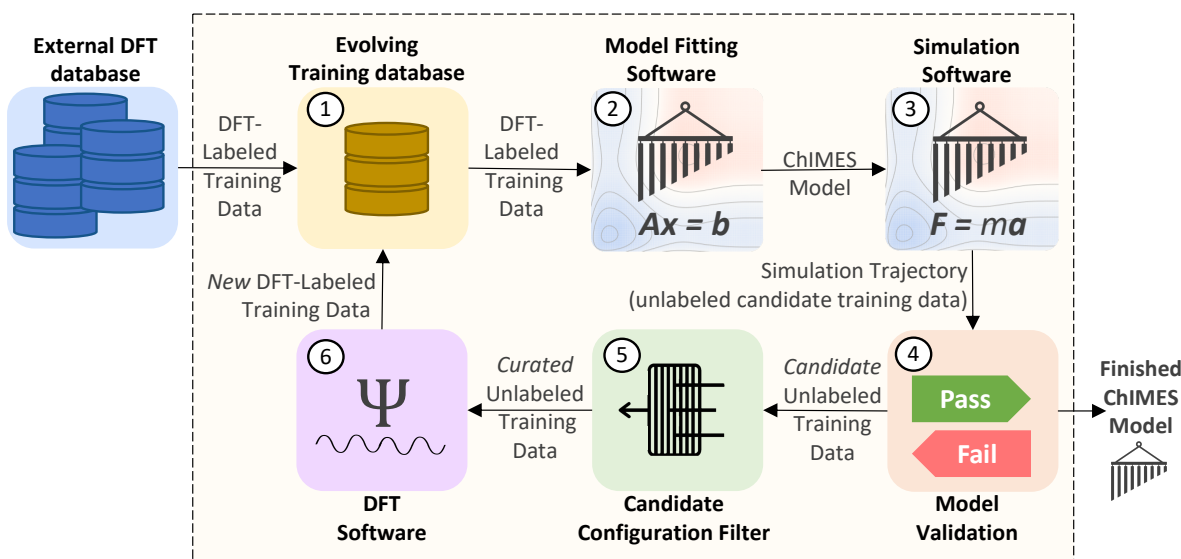

Fig. 1: **Fig. 1:** The ChIMES Active Learning Driver Workflow.
In most cases, generating robust and accurate ChIMES models necessitates an iterative fitting strategy. As shown in Fig. 1, this strategy begins with selecting a number of seed configurations from a larger quantum-based data set (e.g., DFT, which will be used henceforth), which are added to an evolving training database (i.e., Fig. 1 step 1). In Fig. 1 step 2, a ChIMES model of user-specified hyperparameters generated based on the training database constructed in step 1. Generated parameters are then used to launch one or more ChIMES simulations of user-specified nature (step 3).
Fig. 1 step 4 comprises user inspection for model validation. This could entail inspecting the root-mean-squared-error in the fit from step 2, the conserved quantity from simulations in step 3, or comparing physical properties predicted via the simulations in step 3 (e.g., radial pair distribution function) to those predicted by DFT. If the user is satisfied with model performance at this step, they can terminate the ALD and proceed to production simulations with their model; otherwise, the ALD proceeds to step 5.
- ALL_BASE_FILES/ALC-0_BASEFILES contains files specifying how step 2 of figure 1 should be run, i.e., model hyperparameters (fm_setup.in), a list of training configuration files (traj_list.dat), and in this case, a single initial training configuration file (liquid_6000K_2.0gcc.xyzf).
- The ALL_BASE_FILES/CHIMESMD_BASEFILES directory contains files specifying how step 3 of figure 1 should be run, i.e., simulation parameters (case-0.indep-0.run_md.in), initial system configurations for simulation (case-0.indep-0.input.xyz), and hyperparameters for simulation output post-processing (bonds.dat VERIFY RUN MOLANAL IS NEEDED ... CAN MOVE IT INTO AL DRIVER FILES).
- The ALL_BASE_FILES/QM_BASEFILES directory contains files specifying how step 6 of figure 1 should be run, i.e., quantum calculation instructions (6000.INCAR), pseudopotential files (C.POTCAR), and a K-point file (KPOINTS) file.
- the config.py provides high-level instructions on how *all* steps in fig. 1 should be run.